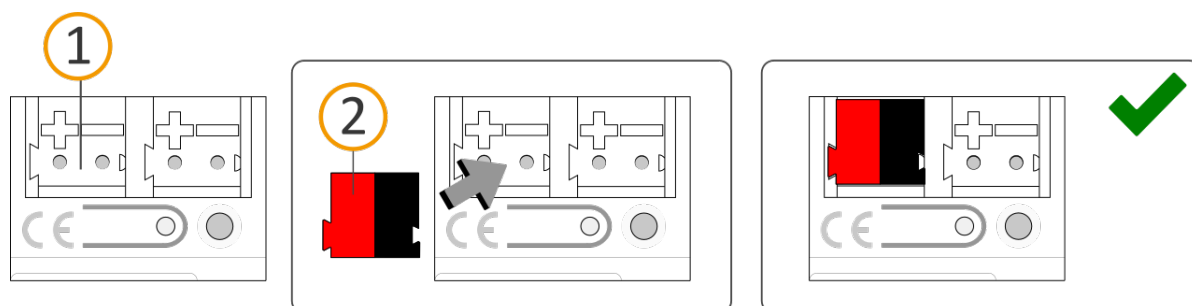

Figure 9: Connect the bus line
2. Connect the KNX/TP bus line (referred to below as the bus line) to the KNX connection of the device (see figure 9, item 1) using the supplied bus connection terminal (see figure 9, item 2). Polarity: left/red: "+", right/black "-".
- a. Attach the bus connection terminal (see figure 9, item 2).